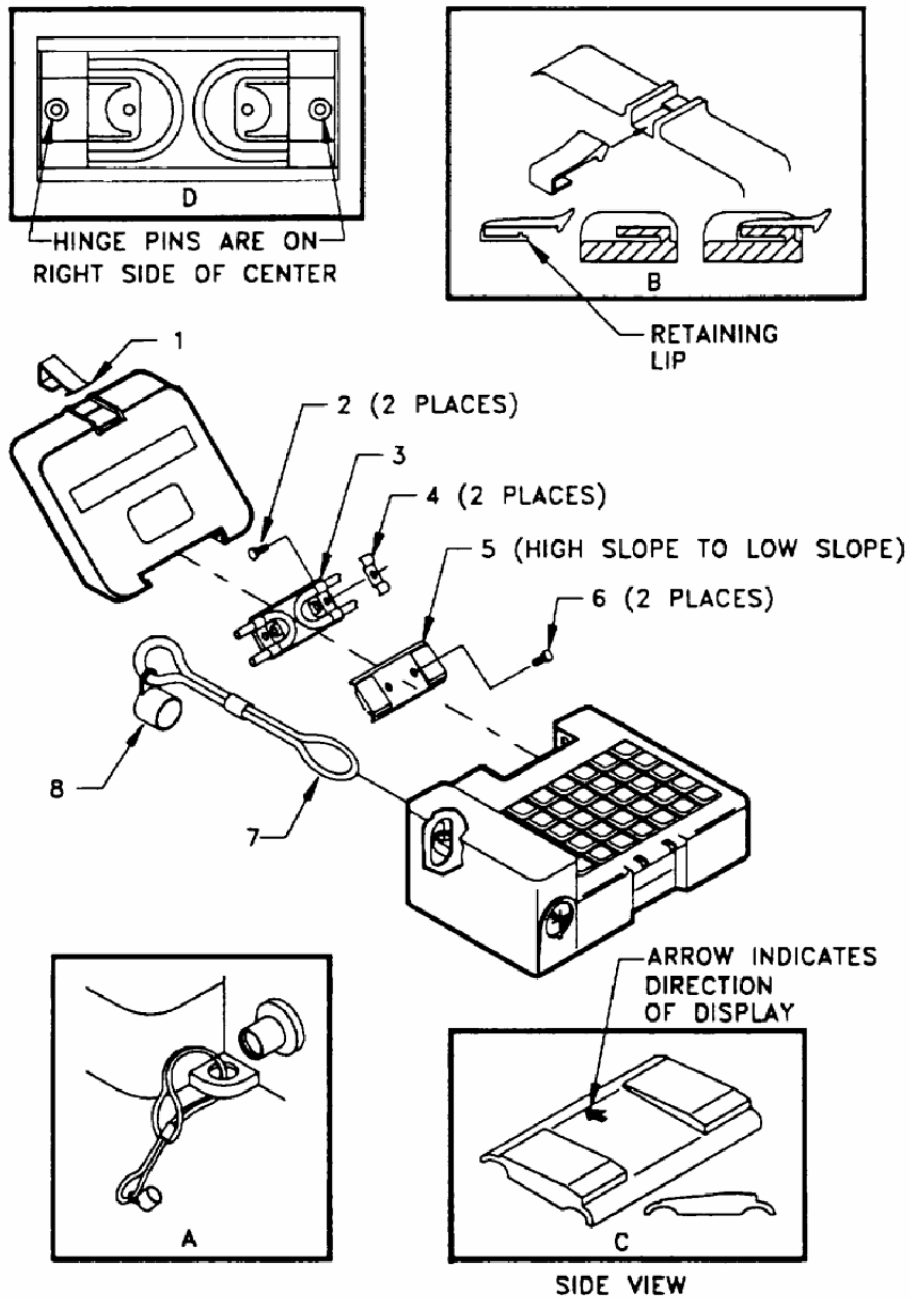
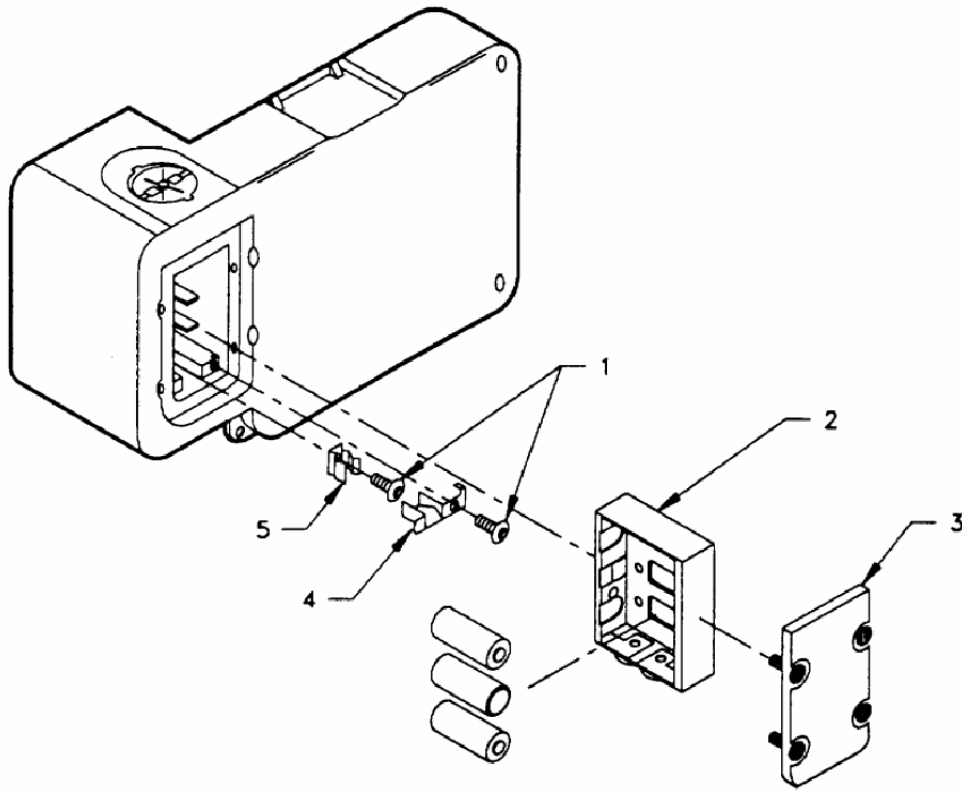

Figure 4-1. Assembly Replacement
Figure 4-2. Housing Battery Contacts
The following paragraphs describe replacement procedures for housing components at Unit level maintenance. Refer to Figure 4-1 for location of parts.
- a. Hinges. The hinge assembly is composed of two hinge cover plates, two springs, and the four screws that are user replaceable. The hinge covers are not interchangeable. The following paragraphs detail the replacement procedures. Refer to Figure 4-1 to replace any part of the assembly.
(1) Front Hinge Cover
STEP 2 Using a Phillips screwdriver, remove the two hinge screws (2) holding the top cover (5) onto the hinge assembly.
STEP 4 Install and tighten the two hinge screws (2) into the assembly.
The hinge cover is molded to be installed one way with the little slope facing the top cover, see insert "C" of Figure 4-1 if it is installed backwards the cover will not close. Attempts to close the cover will break the display assembly and the ANCD will have to be replaced. Do not over tighten the screws as damage will occur to the hinge assembly requiring the replacement of one or both cover plates.
- STEP 3 Remove the defective spring (4) and install the new spring. Ensure the hinge is positioned so that the narrow space between the hole is to the outside, see insert "D" of Figure 4-1
STEP 4 Install the front cover plate (5) over the assembly; insert the two screws (2) and tighten assembly.
(3) Rear Hinge Cover
- STEP 1 Remove the front hinge cover plate (5).
STEP 2 Remove the two hinge springs (4).
STEP 3 Replace the defective rear hinge cover plate (3) with a new plate.
STEP 4 Install the hinge springs (4).
STEP 5 Install the front hinge cover plate (5).
- b. Fill Connector Cover. The fill cover assembly is made up of three components; the rubber cover, nylon cord and retaining clip. The assembly is replaced as a complete unit as described below; refer to Figure 4-1 for location of parts.
- STEP 1 Remove the defective fill cap assembly (8) from the ANCD by using a knife to cut the nylon cord (7) at the ANCD housing end; then remove cord and cover from the ANCD housing.
STEP 2 Lace the replacement cord through the ANCD housing hole, see insert "A" of Figure 4-1
STEP 3 Loop the rubber boot through the loop in the other end of the cord and pull the cover (8) gently through to compress the knot to the ANCD case.
- c. Latch Snap. To replace a broken cover latch, use the following procedure. Refer to Figure 4-1 and "Insert B" of the figure for part location.
- STEP 1 Using a flat tip screwdriver carefully press on the retaining lip of the latch (1).
- d. Battery Cover(s). To replace the battery cover use the following procedures for replacement. See Figure 4-2 for part location.
- STEP 1 Loosen the four captive screws on the cover (2) and lift the assembly off the housing.
- e. Housing Battery Contacts. The battery contacts are unique to the polarity of voltage applied; that is, the positive contact is different in appearance from the negative contact. Both contacts use the same attaching hardware, so the replacement procedure is the same for both contacts as described below refer to Figure 4-2 for location of parts.
- STEP 1 Remove the battery cover (3) and battery holder (2).
STEP 2 Using a 1/16 inch hex driver, remove the screw (1) from the defective contact (4 of 5).
STEP 5 Install the hex-screw (1) into the contact and tighten the screw carefully.